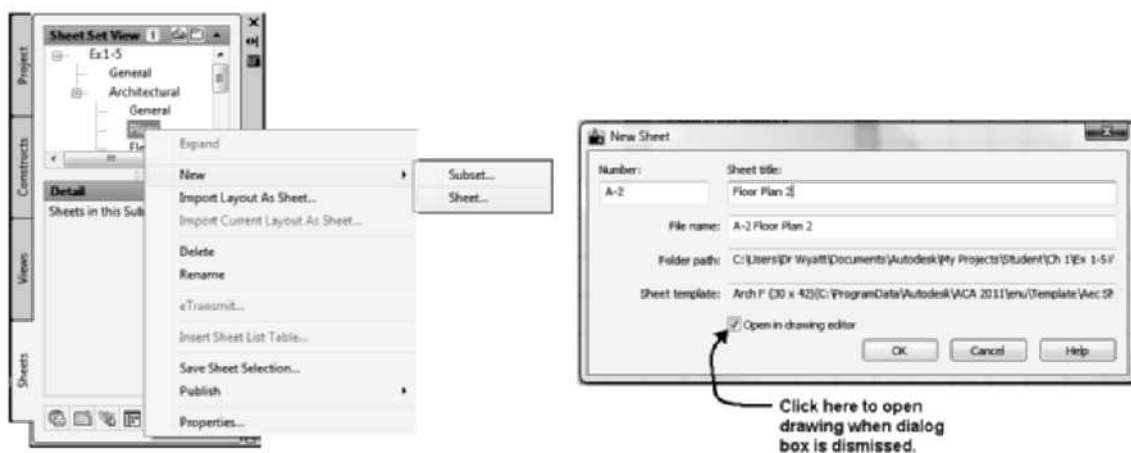

FIGURE 1.88 Creating a Sheet
19. To create a sheet, choose the **Sheets** tab of the Project Navigator. Expand Architectural category. Choose the **Plans** category, right-click, and choose **New > Sheet** to open the **New Sheet** dialog box. Type **A-2** in the **Number** field and **Floor Plan 2** in the **Sheet title** edit field, as shown in Figure 1.88. Verify that Arch F (30 × 42) [ISO A0 841 × 1189] is the sheet template. Select the *Open in drawing editor* checkbox. Select **OK** to dismiss the New Sheet dialog box. The title block and border should be displayed at the right.